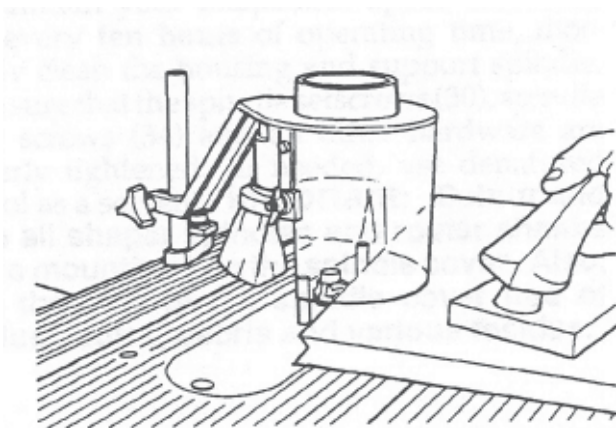

Figure D-76
12. Position the workpiece on the right side of the worktable, as in Figure D-76.